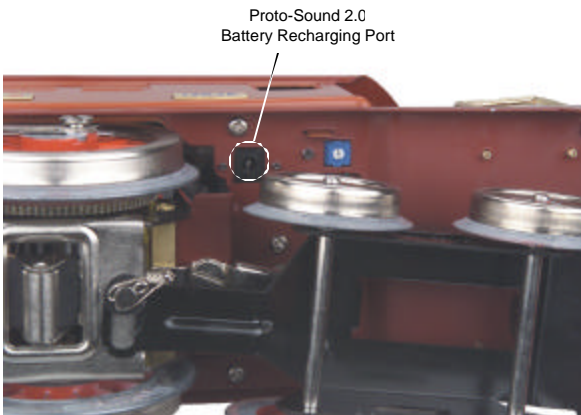

Figure 7: Battery Recharging Port Location
- Use M.T.H.'s battery recharger (sold separately) that plugs into a wall outlet and a special port under the engine to recharge the battery overnight without leaving it on the track. Plug the recharger into the battery port as seen in Figure 7.